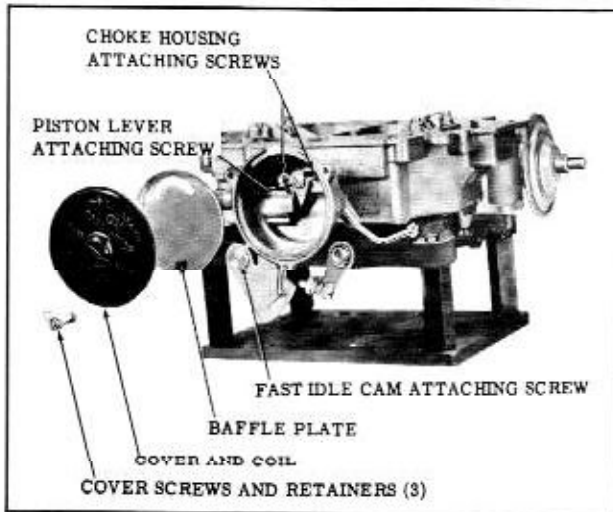

Fig. 8-98 Choke Assembly and Fast Idle Cam
1. Remove the fast idle cam attaching screw. (Fig. 8-98)